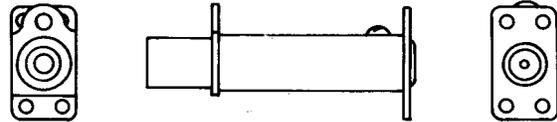

Fig. 26—498A Jack
2.21 498A: This is a coaxial-type jack (Fig. 26) which has the center conductor arranged for soldered wire connection. The outer conductor is electrically common with the mounting plates. The test voltage is 2000 volts ac. This jack forms a part of the 19A and B pads. The 498A jack is designed to be used with the 358A or similar-type plugs.